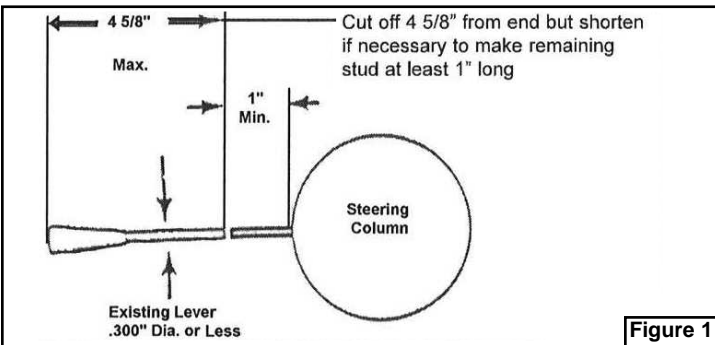

Figure 1
- a. Measure length of lever from its outboard end to steering column shroud. If this length is 5 5/8" or less, mark lever 1" from shroud. If length is over 5 5/8", mark lever 4 5/8" from outboard end. Cut lever on mark. Figure 1